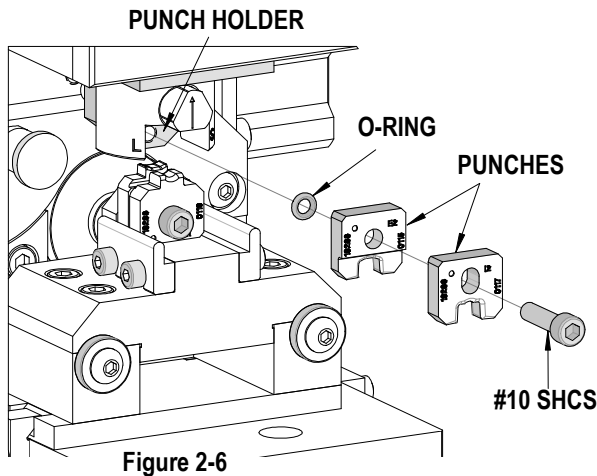

Figure 2-6
- To remove the punches, use a 5/32" hex wrench to remove the #10 SHCS holding the punches to the punch holder. See Figure 2-6.